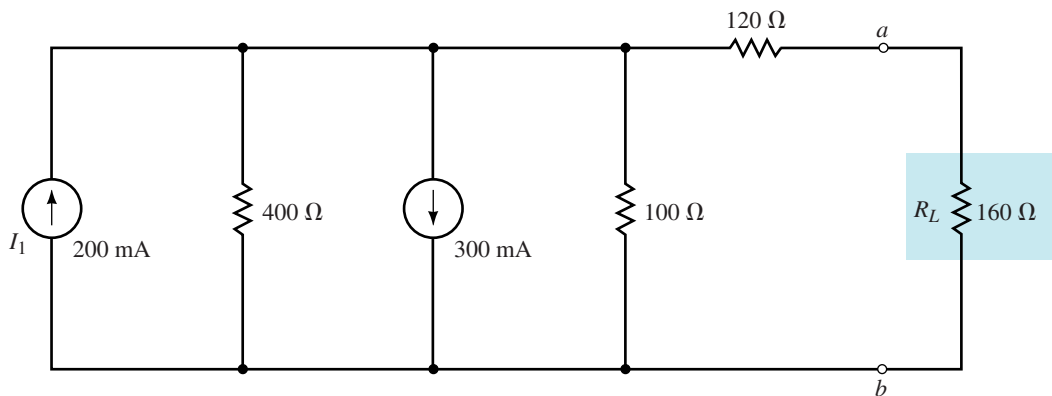

FIGURE 9–97
22. Refer to the circuit of Figure 9–96.